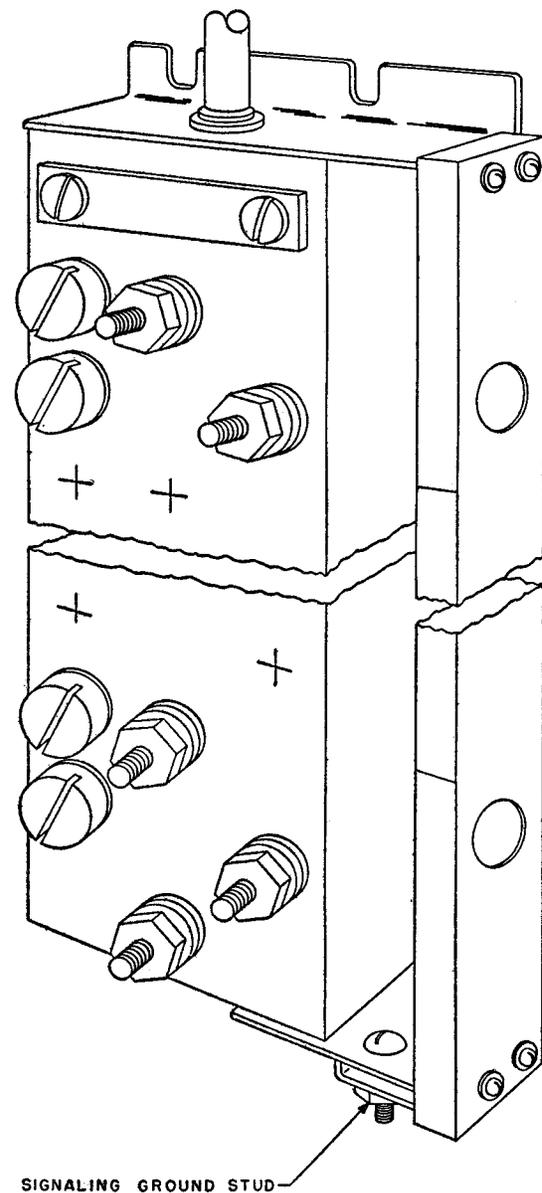

Fig. 15— The 1A4A Terminal Block Showing Signaling Ground Studs
9.02 Signaling grounds on 1A4A (10-, 16-, and 26-pair terminal blocks) may be obtained from ground screw on fanning strip bracket shown in the lower right-hand corner of Fig. 15. Three additional ground lugs are provided on 51-pair terminal block, see Fig. 16.